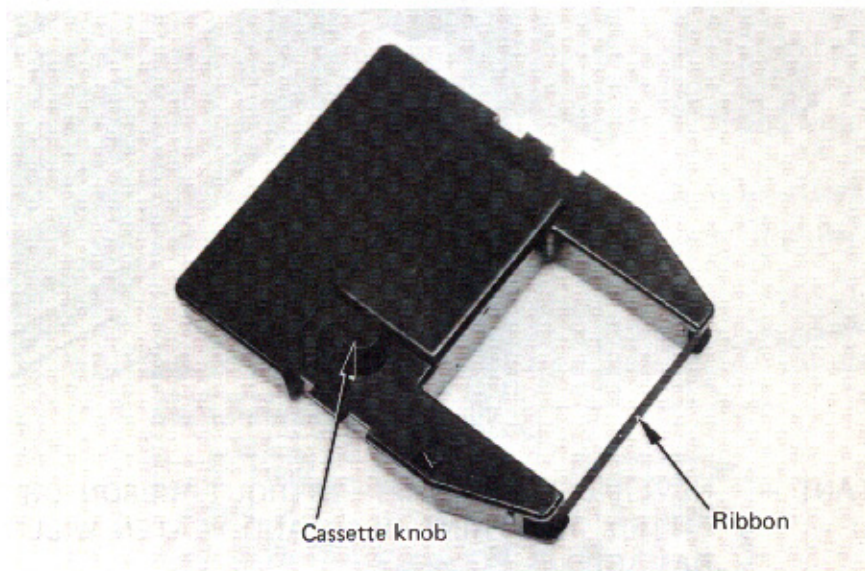

Figure 2
1. Remove the ribbon cassette from its polythene bag, and gently turn the knob on the top of the cassette in the direction indicated by the arrow to straighten the ribbon at the front of the cassette (see Figure 2).